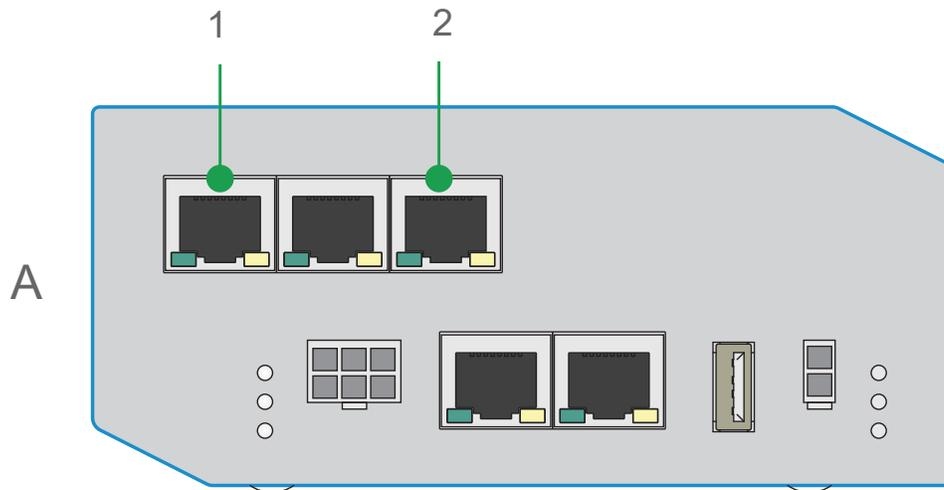

Figure 21: Connecting the VPN-router, case A
- A:** Stem devices (2) and customers router (1) in the same network (refer to Figure 21 below).